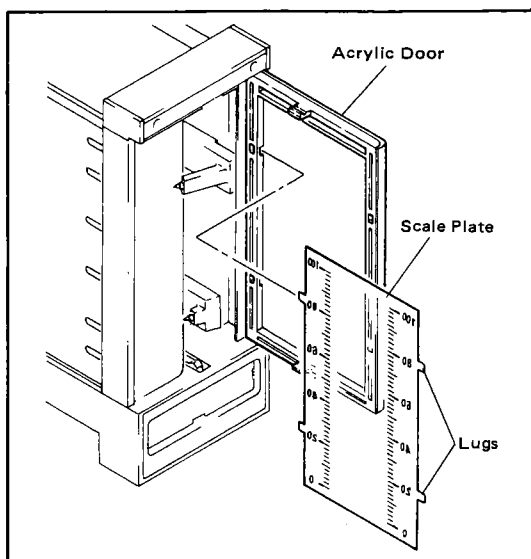

Figure 6-10. Scale Plate Installation.
- (1) The scale plate can be removed by working it free at the lugs with a screwdriver.
- (2) The scale plate is installed inside the acrylic front door.
- (3) Fit the four lugs on the sides of the scale plate into their corresponding holes in the door (See Figure 6-10).